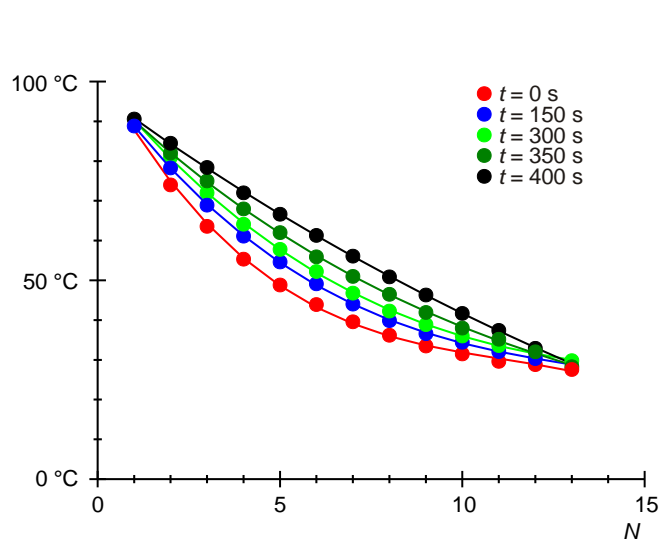

Fig. 2: Temperatures along the aluminium rod in five sets of measurements made at time intervals of 150 s.
- Plot the sets of measurements in Table 1 in a graph of T against N (Fig. 2).